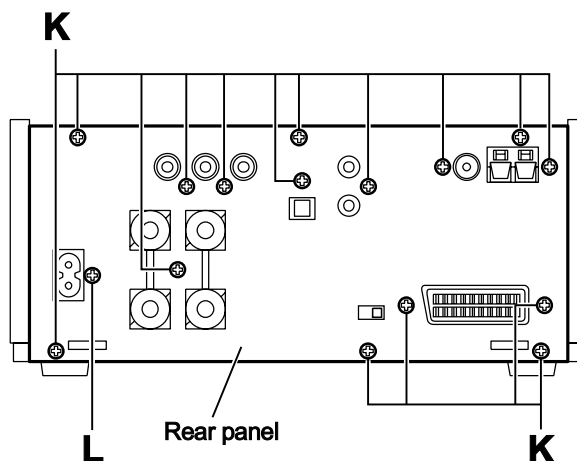

Fig.9
3.1.4 Removing the rear panel (See Fig.9.)
3.1.5 Removing the switching power unit (See Figs.9 and 10)
- (1) From the back side of the main body, remove the screw **L** attaching the switching power unit. (See Fig.9.)